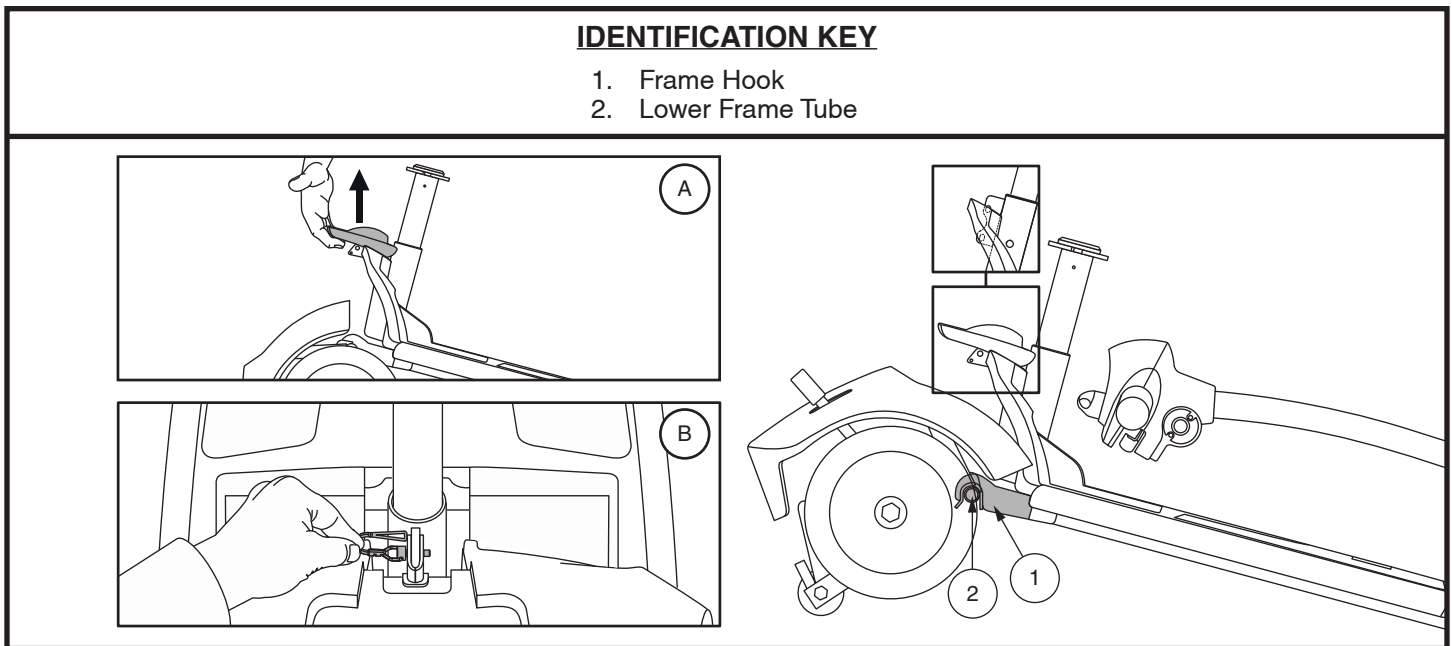

Figure 36. Frame Release Lever (Style A) and Frame Release Lock-up Pin (Style B)
4. Slowly separate the two sections of the Travel Scooter. **See figure 36.**
NOTE: Before attempting assembly, tilt the rear half of the Travel Scooter slightly back on the anti-tip wheels as shown in figure 36.
1. Use the frame release lever (or the seat post for models 29, 36, 336, 83, and 84 only) to lift the front section as you align the frame hooks of the front section with the lower frame tube of the rear section. **See figure 36.**
2. Once the frame hooks are over the lower frame tube, lower the front section and pivot the rear section simultaneously. This will engage the frame lock-up automatically for models AAP4, 39, 40, 44, 40LX, 40X, 44X, 40E, 402E, 44E, 442E, 44LX, 49, 50LX, 50LXLIT, 53, 53HD, 54, 54LX, 54LXLIT, 54ALX, 54HD, 66, 67, 73, 74, and Jazzy ZTS. For models 29, 36, 336, 83, and 84, you will also need to reinstall the frame lockup pin to complete the body assembly. **See figure 36.**